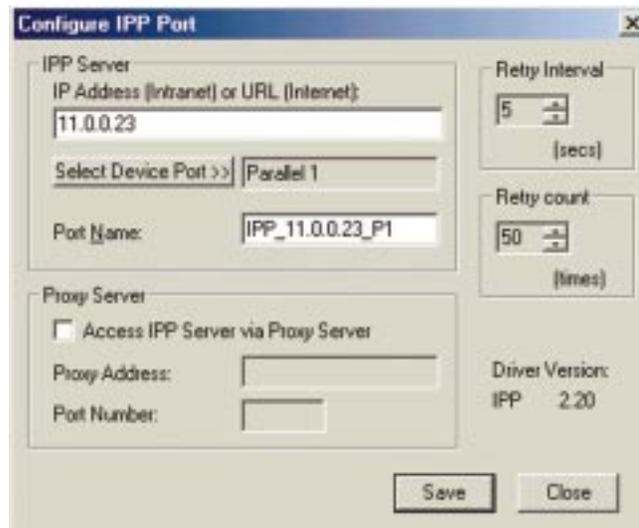

Figure 8-1
1. Run the **Add IPP Port** program entry created by the installation. A screen like the one shown in Figure 8-1 will be displayed. If you do not see the Add IPP Port program entry, then click **Start**. Select **Programs** and then **IPP Port Monitor**. Click **Add IPP Port**.